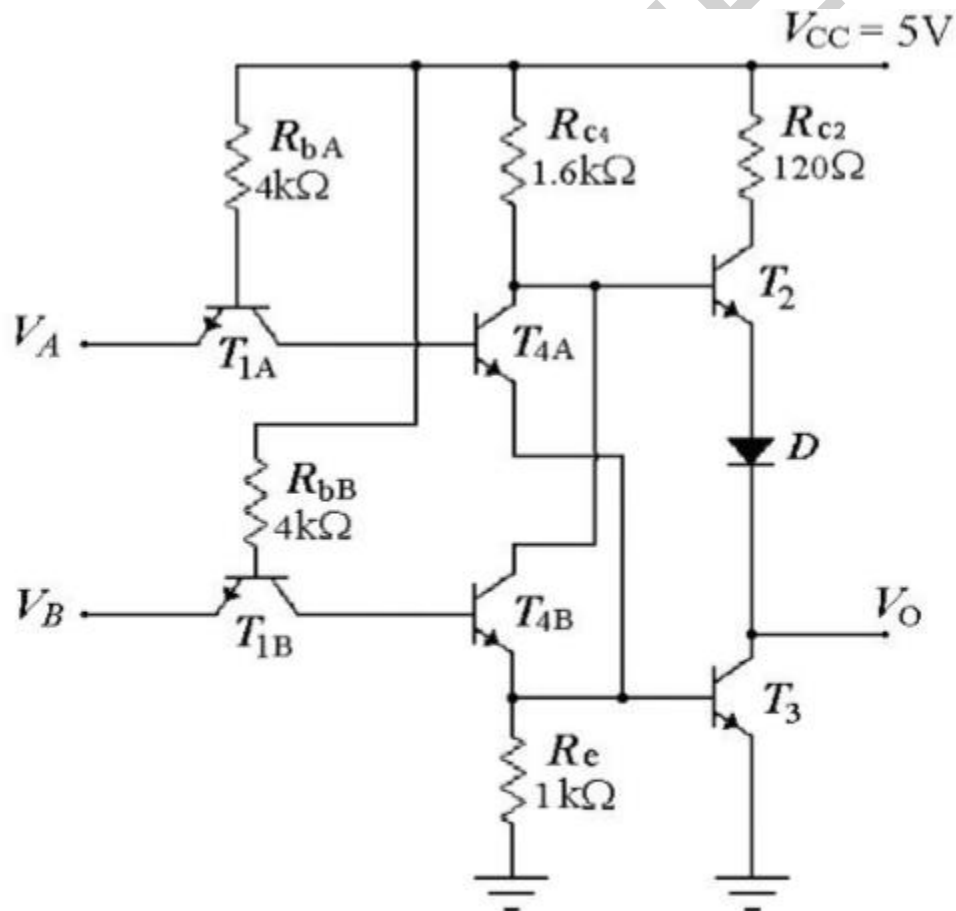

Figure 1 : TTL NOR .
1. Construct the circuit as shown in Figure 1. Adjust the dc supply to 5 volts.